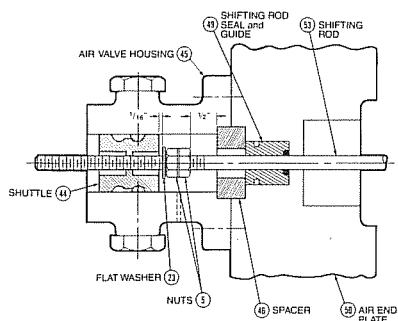
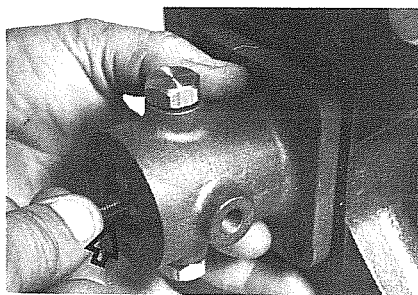

Figure 7-19, Adjustment dimensions for pilot air valve.
Figure 7-20, Checking for $\frac{1}{16}$ movement of shifting rod.
7.3.3 Thread two nuts (5) on shifting rod (53) until 1/2" distance separates first nut from spacer (46). See Figures 7-19. Install flat washer (23) against nuts.
7.3.5 A $\frac{1}{16}$ " clearance is required between the end of the shuttle (44) and the washer (23). See Figure 7-19. Take partially assembled pilot air valve (paragraph 7.3.4 preceding) and hold in position against air end plate (50). Grasp shifting rod (53) and determine if rod moves in and out $\frac{1}{16}$ " approximately. If rod movement is $\frac{1}{16}$ ", tighten nuts securely. If not, readjust and tighten nuts securely. Remove housing (45). See Figure 7-20. Lubricate first spring (38)